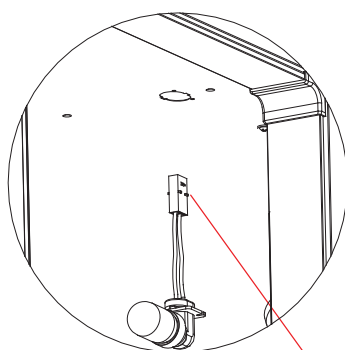

Fig 9-19
4. Take the socket and remove the wire and connector from the wall.(Fig 9-19)